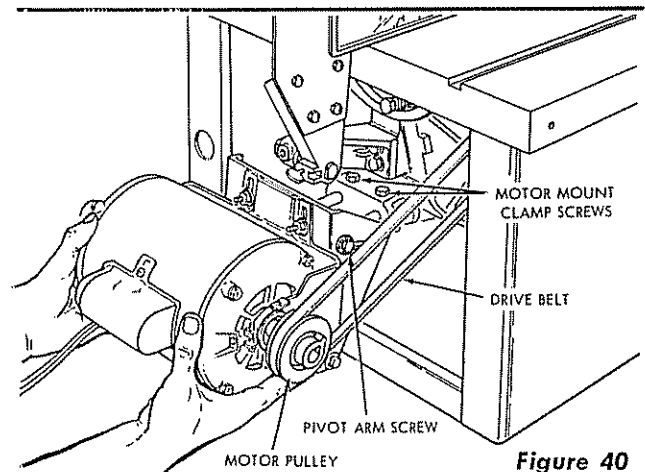

Figure 40
- e. Grasp the motor with both hands as shown in figure 40 and lift up until the pivot arm screw is at the rear of the slot, as shown. While holding the motor in this position pull it rearward (toward operator) until the drive belt is "snug" and tighten the two motor mount clamp screws securely. The pivot arm screw should still be at the rear of limit of its slot.